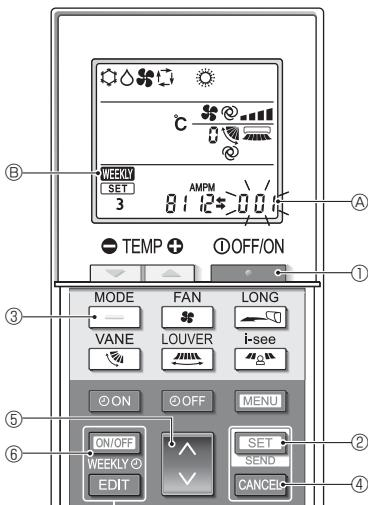

Fig. 4-12
4.12.8. How to disable Auto mode operation (Fig. 4-12)
1. Press the **[]** button ① to stop the air conditioner.
- If the weekly timer is enabled, press the **[ON/OFF]** button ⑥ to disable the timer. (**[WEEKLY]** Ⓑ disappears.)
2. Press the **[SET]** button ② for 5 seconds.
3. Press the **[]** button ④.
4. Completing the settings (Fig. 4-12)
- Press the **[SET]** button ② for 5 seconds.